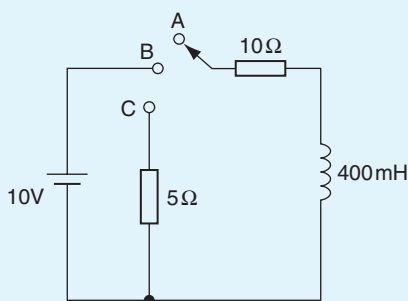

Figure 18.15
6. In the inductive circuit shown in Fig. 18.15, the switch is moved from position A to position B until maximum current is flowing. Calculate (a) the time taken for the voltage across the resistance to reach $8\ \text{volts}$, (b) the time taken for maximum current to flow in the circuit, (c) the energy stored in the inductor when maximum current is flowing, and (d) the time for current to drop to $750\ \text{mA}$ after switching to position C. [(a) $64.38\ \text{ms}$ (b) $0.20\ \text{s}$ (c) $0.20\ \text{J}$ (d) $7.67\ \text{ms}$]